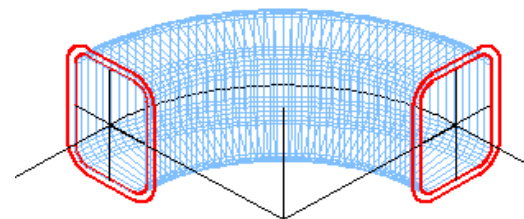

Figure Step 14
Step 14 Enter the REVSURF command shown below to construct the inside of the tube around the first corner. You will have to first change the layer of the straight tube surfaces you constructed in Steps 11 to 13 to Surface Off. See Figure Step 14.